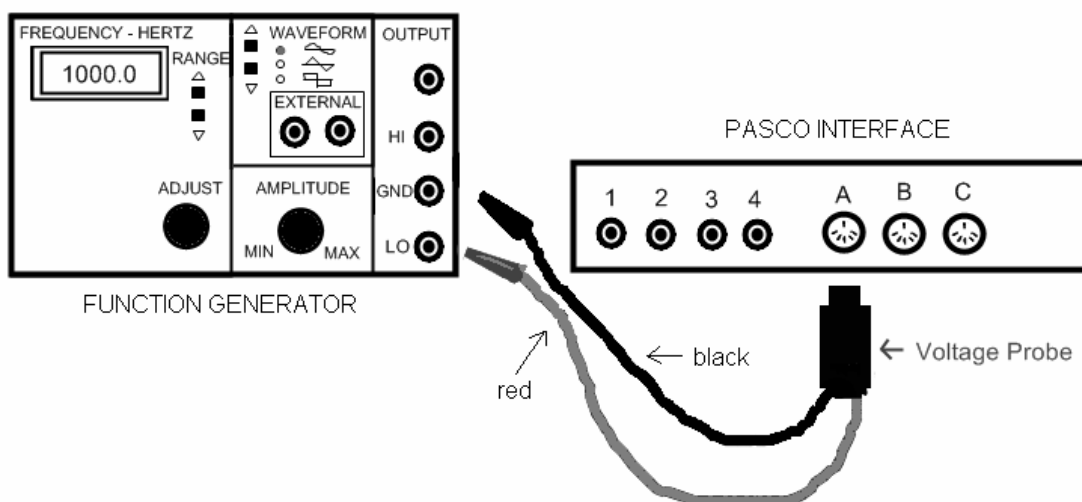

Figure 8
1. Set up the experiment as shown in the diagram in Fig.8. The function generator is turned on by a switch on the rear of the unit. Connect the voltage probe into channel A of the PASCO 750 interface. Connect the red banana plug of the other end to the LO Ω output of the function generator. Connect the black banana plug to the GND output of the function generator.